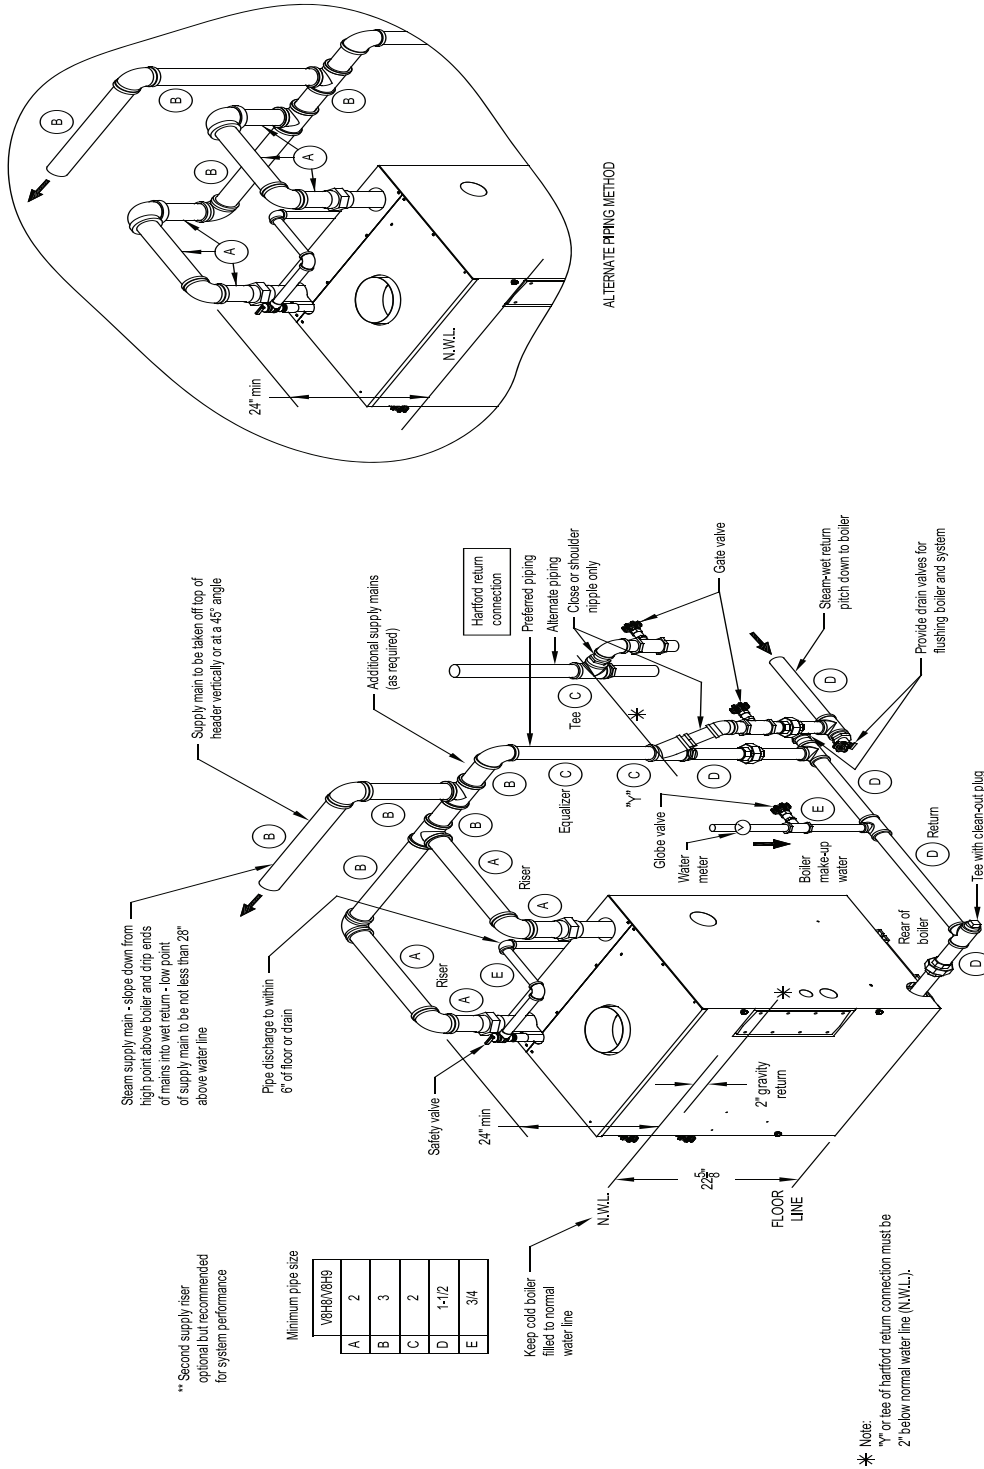

Figure 15: Recommended Boiler Piping for Gravity Return Steam Boiler
B. CONNECT SYSTEM SUPPLY AND RETURN PIPING TO BOILER. See Figure 15 for piping details. Also consult Residential Hydronic Heating Installation and Design I=B=R Guide.